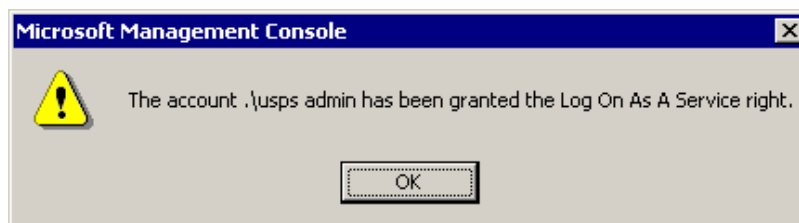

Figure 1-238. Confirmation of granted Logon as Service right
7. The window in Figure 1-238 might popup, which informs you that 'usps admin' has been granted the right to run a service. Click on **OK**.